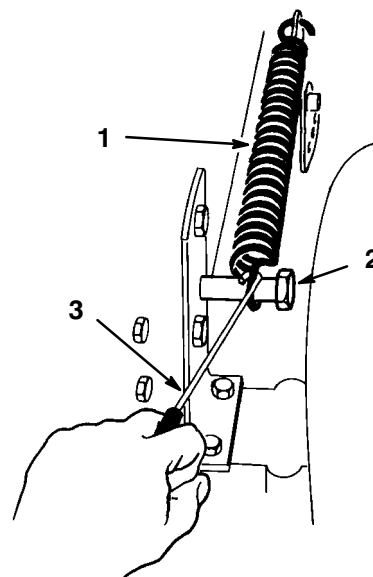

Figure 38
- Remove the height-of-cut lift assist spring from the retaining bolt (Fig. 38), using the spring tool provided with the machine. The spring is between the frame and the right rear wheel.
14. Move the height-of-cut lever (deck lift) into the "D" notch. Hook lift assist spring onto retaining bolt for storage (Fig. 38).